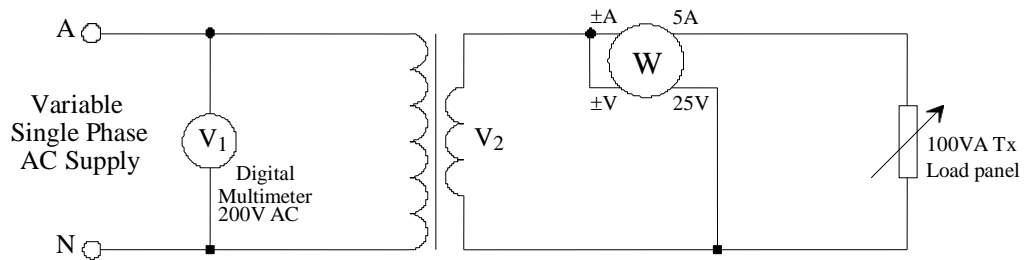

Figure 2
1. Connect the transformer as shown in figure 2.